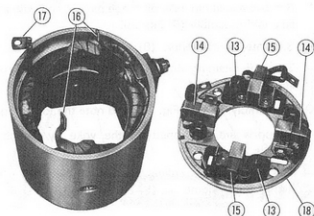

Fig. 250 - Yoke and Brush Holder Assembly
- Free terminals (16 and 17) and separate brush holder (18, Fig. 250) from the yoke.